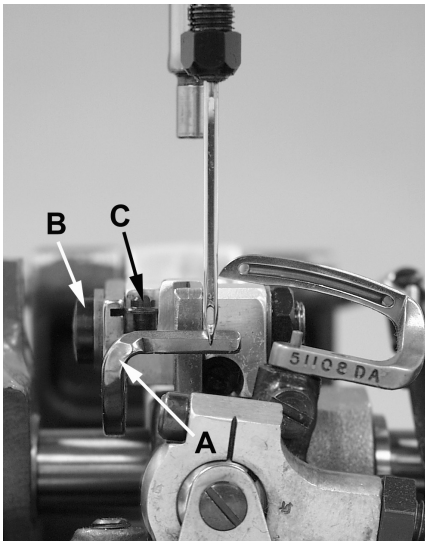

Fig 12
Rotate handwheel in operating direction to position looper point at the right hand side of needle. At this time the needle guard (A, Fig 12) should be at its extreme end of forward travel. Set the guard front to back to just touch the needle. Guard should be set as low as possible, yet have its vertical face approach above the needle point. To move the needle guard forward or backward, loosen the screw (B), move needle guard as required, and retighten screw. To raise or lower needle guard, loosen screw (B), and turn screw (C) clockwise to lower needle guard or counterclockwise to raise it. Retighten screw (B) after guard is properly set.